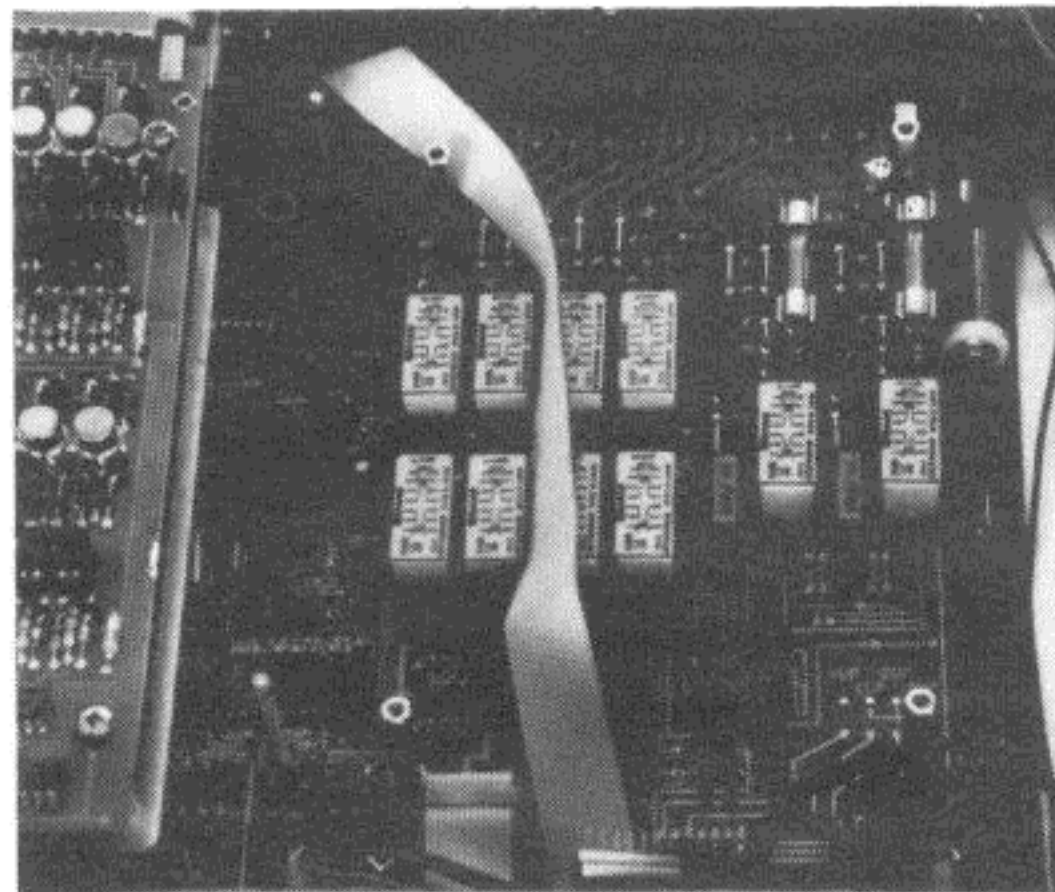

Figure 3-2-8. Slot 1 Option Cable Routing
- a. Route the ribbon cable from J501 on the motherboard across the slot 0 option as shown in Figure 3-2-8. Make sure the red stripe is oriented to the right (pin 7 of the motherboard connector).